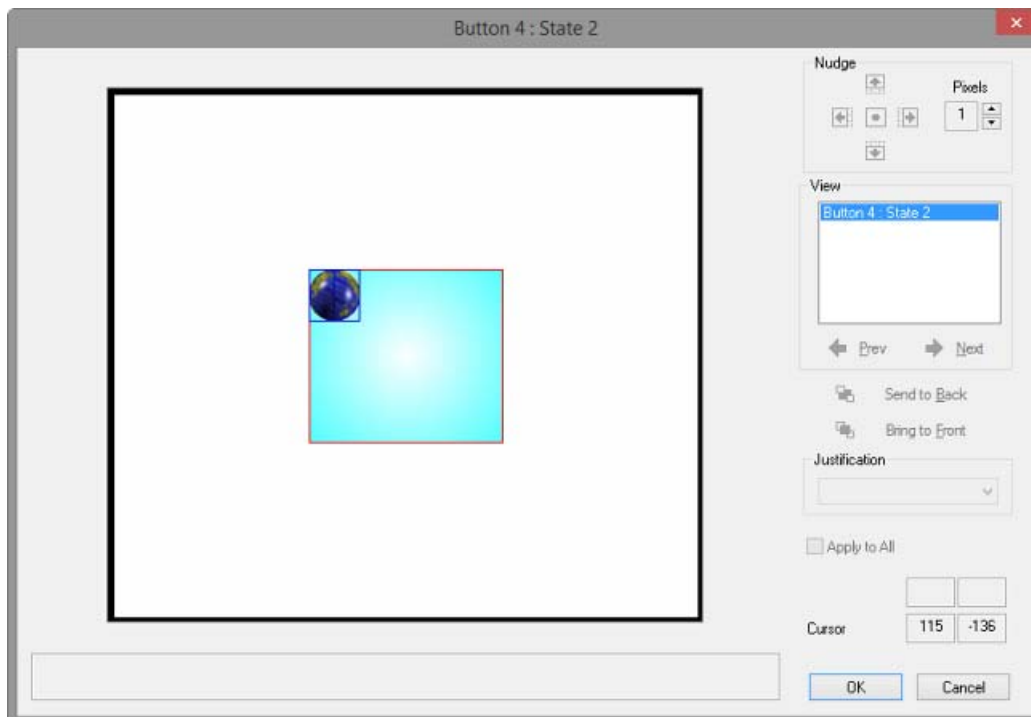

FIG. 322 State Manager context menu - Image/Text Positioning
- Initially, the *Image/Text Positioning* dialog shows the bitmap (or text) in it's current position on the button (FIG. 322):